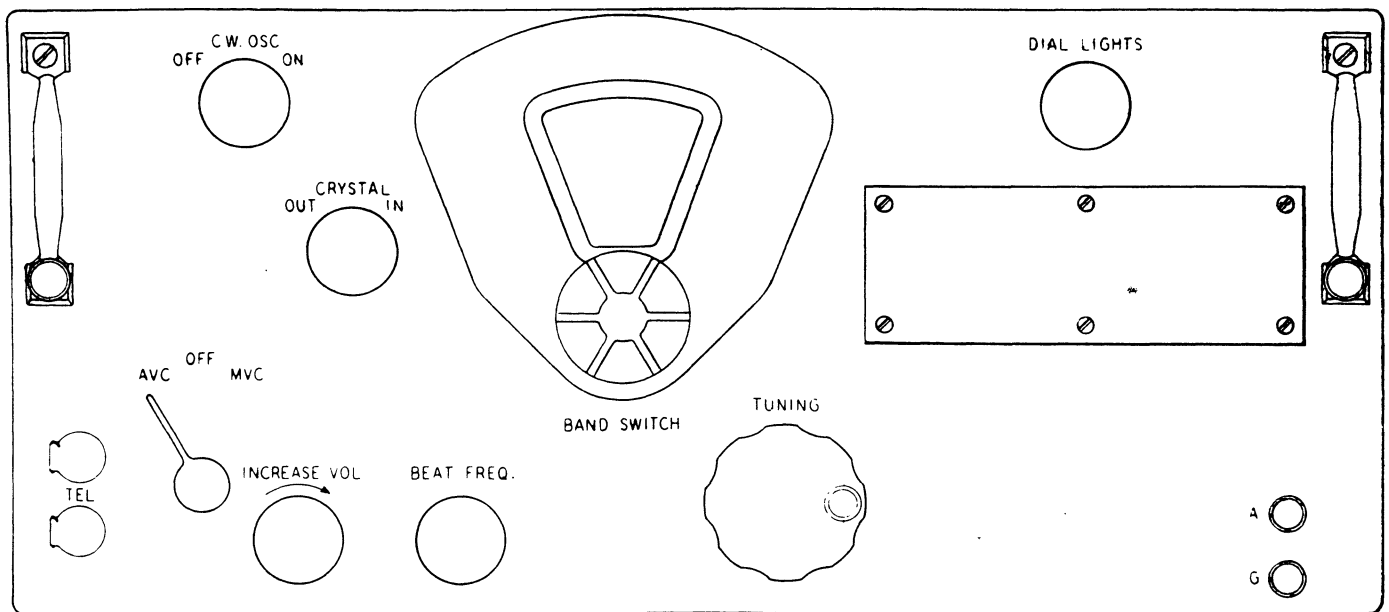

Figure 3 — Radio Receiver BC-348-J, View of Front Panel
- (1) Check the connections at the aircraft power supply.
- (2) Check the connections at the transmitter relay.
- (3) Check the connections at the interphone system, if used.
- (4) Check the power connections to auxiliary equipment, if used.
- (5) Check the antenna and ground connections.
(6) Make sure the thumbscrew rods holding the chassis in the cabinet are tight.
(7) Make sure the snapsides are locked and secured with safety wire.
*b.* CONTROLS.—The operator should become thoroughly familiar with the controls on the front panel (see Figure 3) and their function before beginning the operating test.
(1) AVC-OFF-MVC. — Power to the receiver is controlled by the AVC-OFF-MVC receiver switch. With this switch in the OFF position, no power is supplied to the receiver. When switched to either the MVC or AVC position, power from the primary source is supplied to the tube heaters and dynamotor, placing the equipment in operation. The screen grid voltage supply leads are carried out of the receiver through the power plug to the keying relay of the associated transmitter where the circuit is opened when actually transmitting. (See Section II, paragraph 13*b*).
(2) DIAL LIGHTS. — The brilliancy of the dial illumination is controlled by this knob. The dial lamps may be adjusted for any desired degree of illumination or turned off completely.
(3) BAND SWITCH. — The frequency band in which the receiver is operating is indicated on the dial mask visible through the dial window. This band may be changed to any desired frequency band by turning the band switch control.